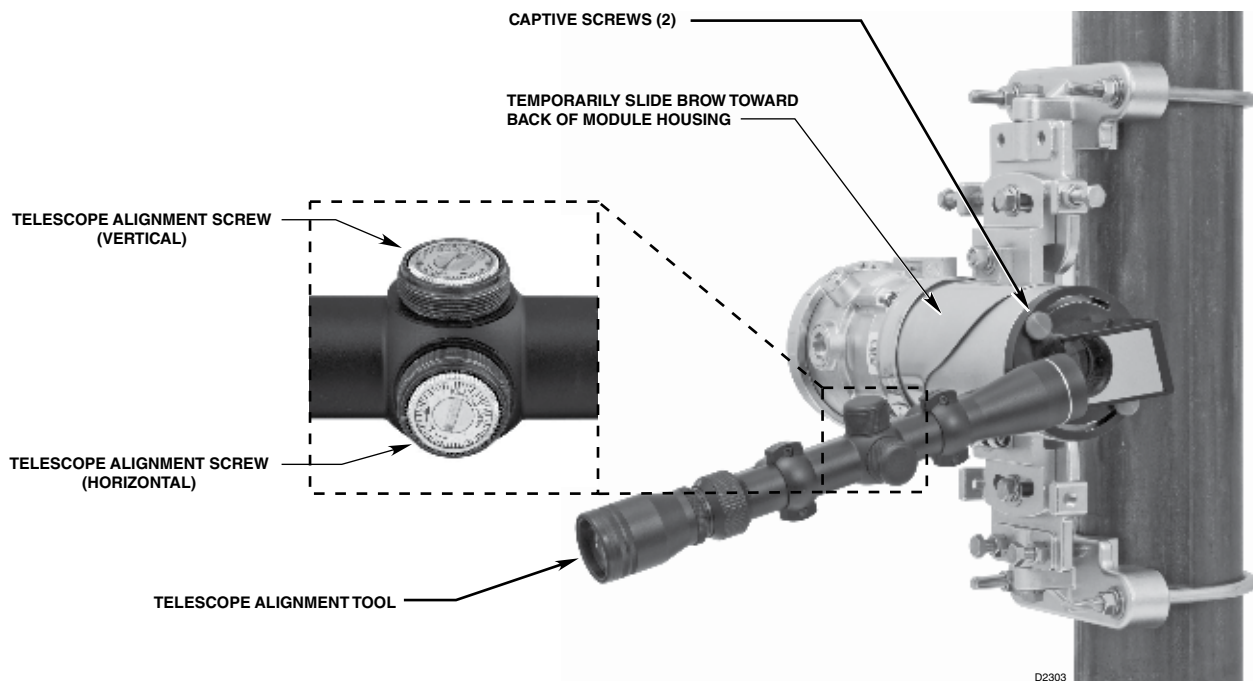

Figure 19— OPECL with Telescope Alignment Tool Installed (Transmitter Module Shown)
6. Install the Telescope Alignment Tool onto the receiver module by inserting the captive thumbscrews into the threaded holes on the faceplate. See Figure 19. Ensure that the telescope is properly attached, that the eyepiece is accessible, and that the thumbscrews are completely tightened.